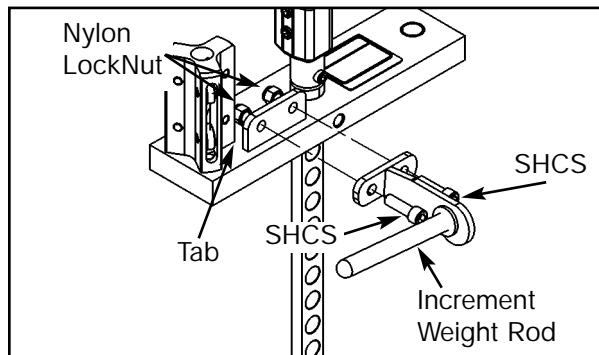

Figure 3
- E. Remove top weight increment rod from the top weight. See Figure 3.
NOTE: Position top weight so that the tab is nearest the increment rod on the frame. See Figure 3 for location of tab.
O. Place top weight increment rod onto the top weight and secure using two nylon locknuts and two SHCS .375-16 x 1.25. See Figure 3.